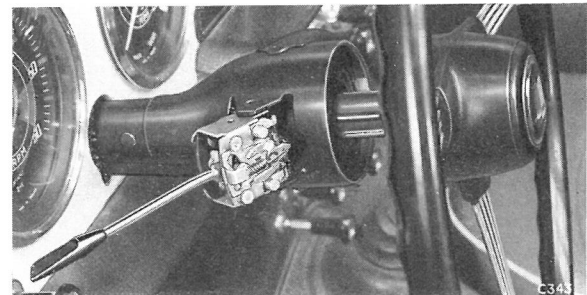

Fig. 15. Showing the direction indicator cancelling lugs at the top of the inner column aligned with the steering wheel spokes
Fit the steering wheel (48) to the inner column (24), aligning the direction indicator cancelling lugs on the column to correspond with the steering wheel spokes as shown on Fig. 15, and tighten its attachment nut (51). Peen the metal of the nut to the inner column to prevent it unscrewing.